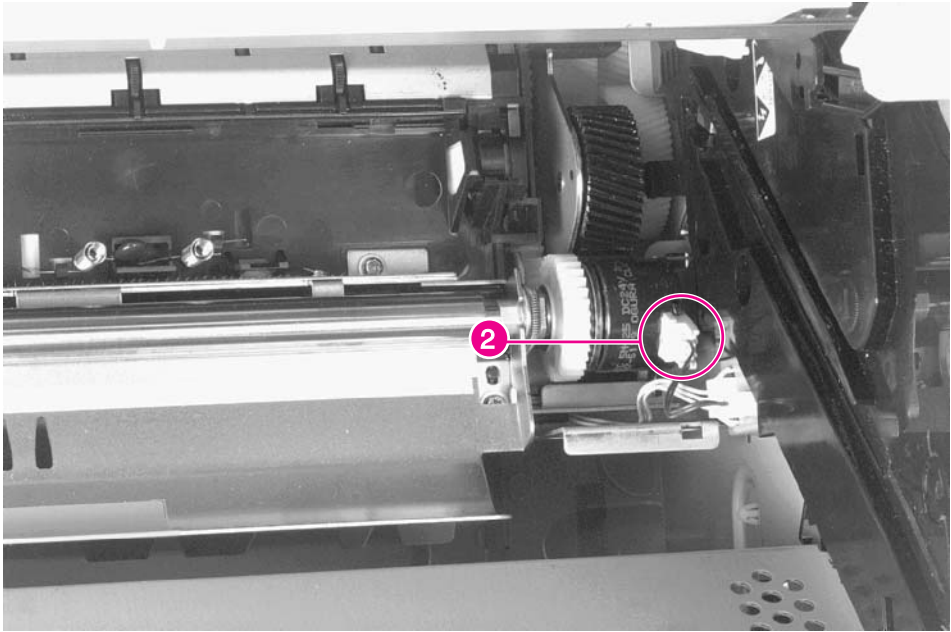

Figure 6-52 **Registration Assembly (2 of 3)**
- 5 Unplug the clutch cable from the clutch on the right end of the Registration Assembly (figure 6-52, callout 2).
- Registration Assembly (see figure 6-52 on page 218)